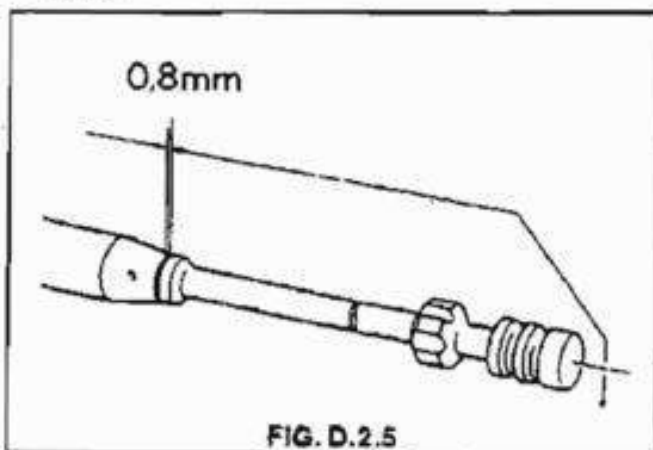

FIG. D.2.5
9. Ensure that clearance between gas piston and bolt carrier body has at least 0.8 mm free movement above piston centre line. See Fig. D.2.5